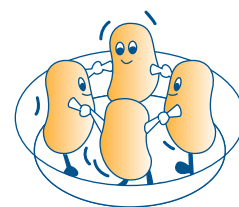
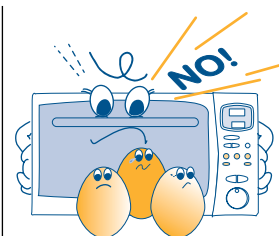

fig. 10
fig. 11
- 7) Do not block the air intake vents. In particular, do not place any objects on top of the oven and check that the air and steam outlets (placed on the top, on the bottom and or on the back of the appliance) are ALWAYS FREE OF OBSTRUCTIONS (fig. 10).
- 8) Place the support (I) in the centre of the circular groove and attach the turntable (H) to it. The spindle (D) should be inserted in the corresponding groove in the centre of the turntable.
- N.B. The appliance must not be placed on or near sources of heat (for example on the refrigerator) (fig. 11).**
- 5) If you are preparing a large number of portions of the same food item (e.g., boiled potatoes), **place** those portions in a Pyrex dish in order to have them cook in a uniform manner (see Fig. 10):
- 7) **Do not cook eggs in their shells (fig. 11):** the pressure which builds up on the inside would cause the egg to explode, even after cooking has finished. Do not heat up eggs which have already been cooked, unless they are scrambled.